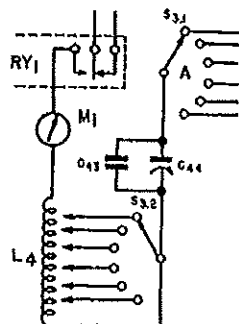

Fig. 23
- (3) See Fig. 23 for change in BC-669-A.
- (e) An A.V.C. voltage is applied through resistor R_8 and T_8 secondary to grid #8 of tube V_2 , filtered by capacitor C_{41} and by-passed by capacitor C_{42} , for the same purpose as that outlined in paragraph 18 a (1) (f).
- (8) Heterodyne oscillator tube V_3 is a Tube VT-94 (commercial type 6J5) which has the function of generating oscillations at a frequency which differs from the signal frequency by the value of the intermediate frequency used (385 KC.). The oscillator employs a Hartley circuit for manual operation and an additional circuit for crystal operation. Band switching and manual to crystal switching is accomplished by means of switch sections $S_{1.5}$, $S_{1.6}$ and $S_{1.7}$. BC-669-B, C use Tube VT-94-D (commercial type 6J5-GT/G) as V_3 .
tuning variable capacitor C_{44} and antenna loading coil L_4 . The loading inductance is varied by means of a set of sliding contacts on coil L_4 which are selected with switch section $S_{3,2}$. The transmitter antenna circuit is opened in receive position by a set of contacts in relay RY_1 . (In SCR-543-A, some early units had antenna ammeter M_1 connected on the antenna side of antenna loading coil L_4 . See Fig. 23.)